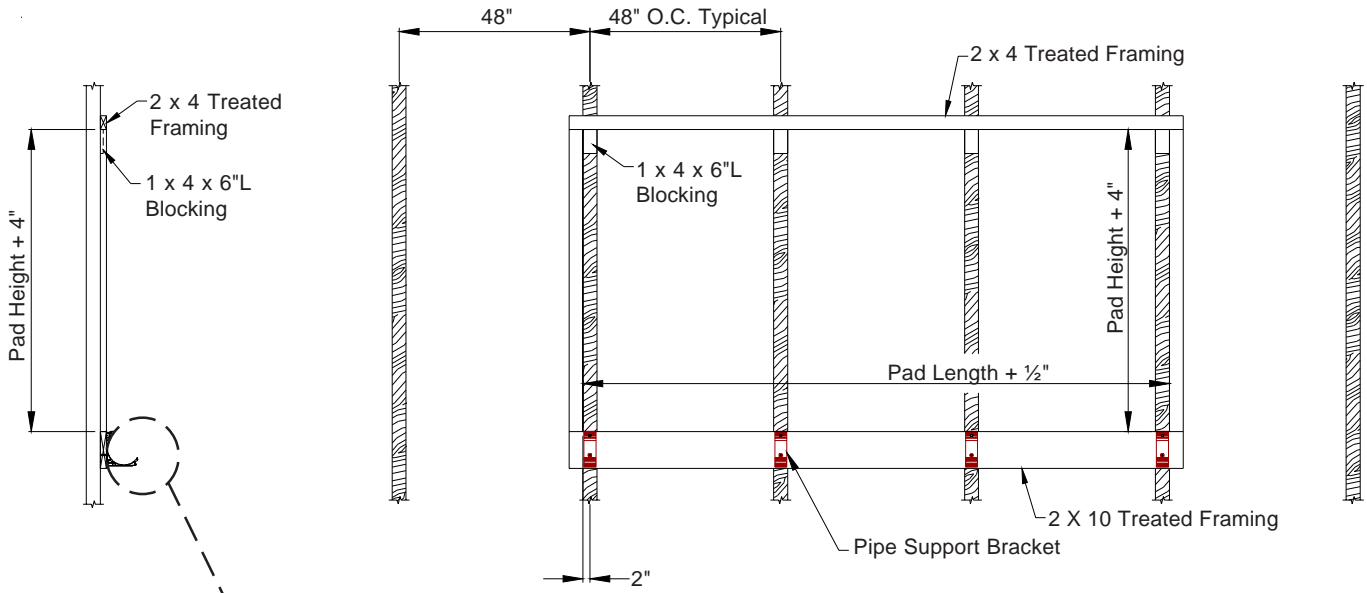

Figure 4A
4) At the bottom framing fasten the pipe support bracket to the 2 x 10 at each post (stud) according to the proper spacing on **Chart A**. Make sure the lip of the pipe support bracket hangs on the top of the 2 x 10. The top hole of the pipe support bracket should be secured with a $\frac{3}{8}$ " x $3\frac{1}{2}$ " Lag screw (provided). Pre-drill framing for $\frac{3}{8}$ " Lag screws using $\frac{1}{4}$ " drill bit. The bottom hole should be fastened with a #14 x $1\frac{1}{2}$ " Lag screw (provided). **See Figure 4A, 4B and 4C**. If framing does not match Figure 4A, framing must be capable of supporting 300 lbs. per bracket.